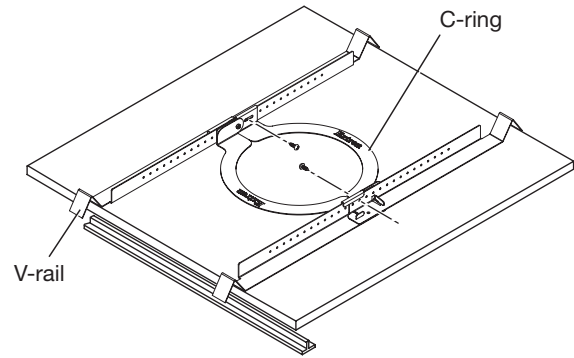

Figure 2. Secure the C-ring to the V-rails
- c. Place both assembled V-rails on the cut ceiling tile and position them equally on either side of the hole. The ends of the V-rails go over the ceiling grid (see figure 2, on next page).
- e. Secure the C-ring to the V-rails using two screws (see figure 2).